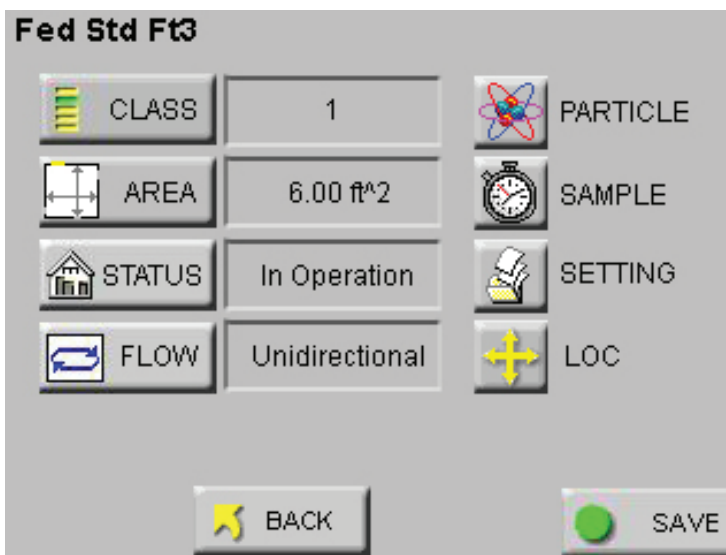

Figure 4-78 Reports Setup Screen
- Select BACK to return to the main REPORTs screen or select SAVE to save the configuration in the Recipe database. See Figure 4-78.